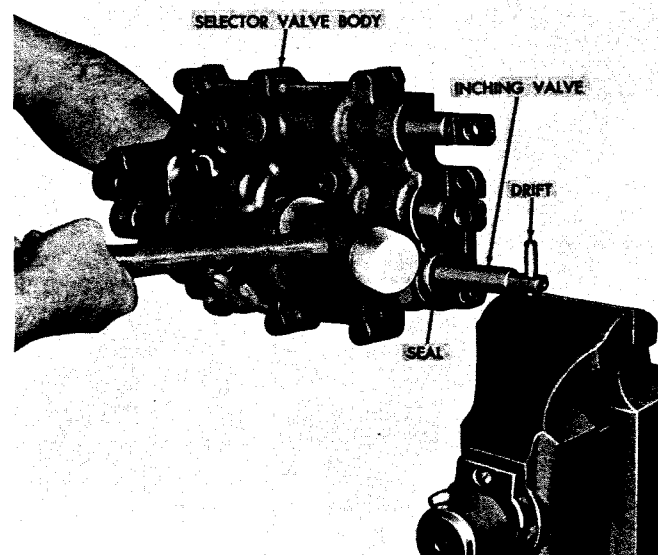

Fig. VI-4. Removing inching control valve—later model
(2) Anchor the inching valve to a drift or bolt held in a vise (fig. VI-4). Support the valve body horizontally and, with a mallet or soft hammer, drive the valve body off the valve. This will remove seal 45, plug 43 with seal ring 44, valve 42 and spring 41. Separate these parts.